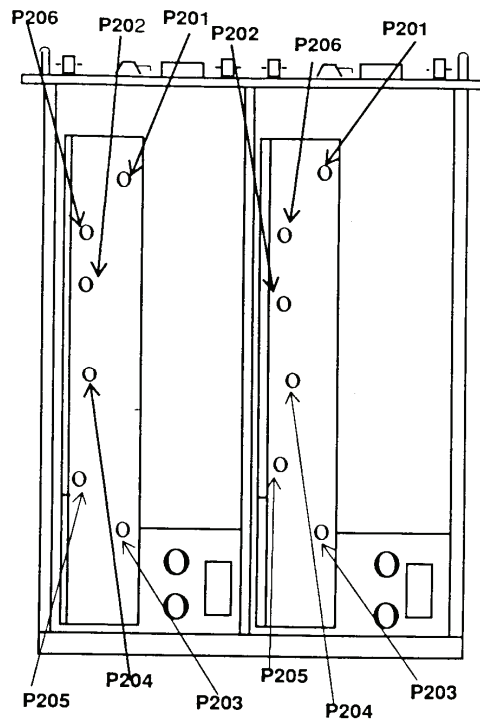
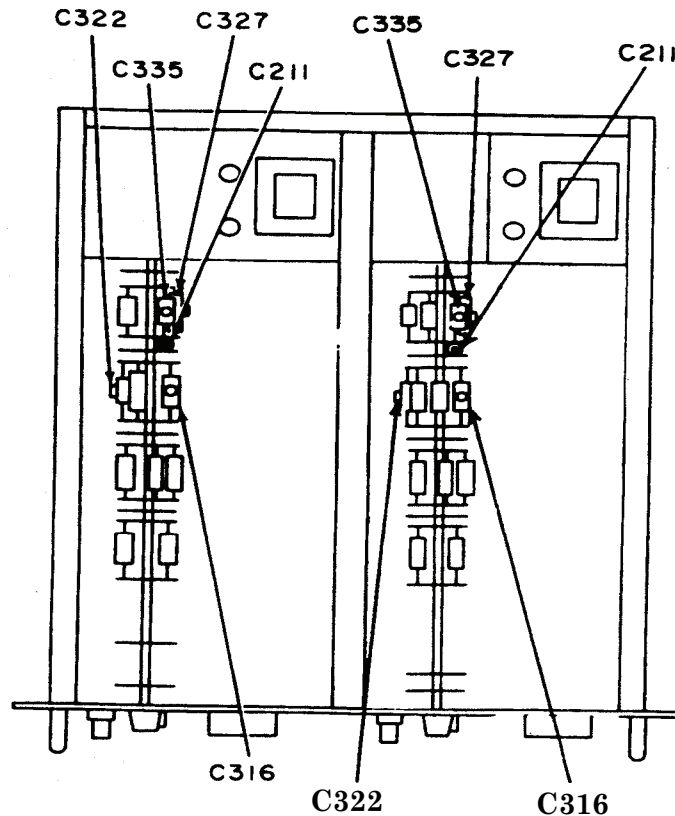

Figure 1. Model 3202 (R) adjustment - top view
Figure 3. Model 3202(R) adjustments - top view.
- j. Adjust P201 (fig. 1) for minimum dc voltage indication on multimeter.
k. Adjust P206 (fig. 1) for minimum dc voltage indication on multimeter while turning **CUTOFF FREQ Hz** dial from **200** to **20**.
- (1) Adjust P202 (fig. 1) until true rms voltmeter indicates 1 V (R).
- (2) Adjust P204 (fig. 1) until true rms voltmeter indicates 1 V (R).
- (3) Perform tracking check in table 3. If error exists and is constant, perform (a) through (e) below. If error is not constant, perform (a) through (c) and (f) below.
- (f) Adjust P205 (fig. 1) until true rms voltmeter indicates 0.708 V (R).
- (4) Adjust function generator frequency to 600 kHz as indicated on frequency counter.
- (5) Adjust C322 (fig. 3) until true rms voltmeter indicates 0.708 V (R).
- (6) Set **CUTOFF FREQ Hz** dial to **180** and selector switch to **X10K**.
- (7) Adjust function generator frequency to 180 kHz and amplitude for 1 V indication on true rms voltmeter.
- (8) Maintain amplitude and adjust function generator frequency to 1.8 MHz as indicated on frequency counter.
- (9) Adjust C335 (fig. 3) until true rms voltmeter indicates 0.708 V (R).
- (10) Repeat a (12) through (15) above.
- (1) Adjust C211 (fig. 3) until true rms voltmeter indicates at least 0.03 V (R).
- (3) Repeat **a** (6) through (10) above.
- (4) Adjust C316 (fig. 3) until true rms voltmeter indicates 0.0631 V (R).
- (5) Repeat **a** (6) through (13) above.
- (6) Adjust function generator frequency to 200 kHz as indicated on frequency counter.
- (7) Increase C327 (fig. 3) and decrease C316 (fig. 3), or decrease C327 (fig. 3) and increase C316 (fig. 3), until true rms voltmeter indicates 0.708 V (R).
- (8) Repeat **a** (6) through (16) above.